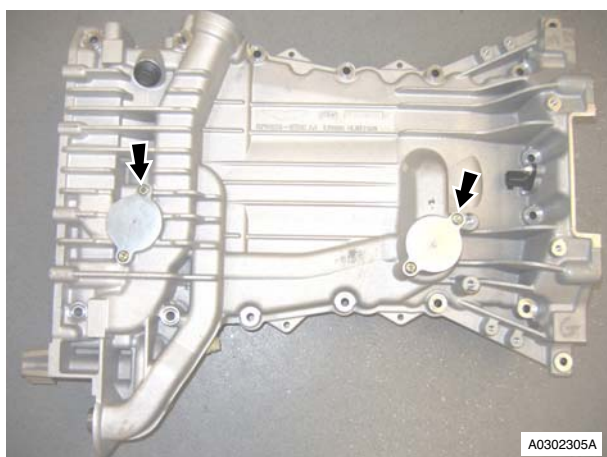

Figure 4
5. Remove Torx screws (x4) that attach the oil filter plates (x2) to sump. Remove plates (refer to Figure 4).